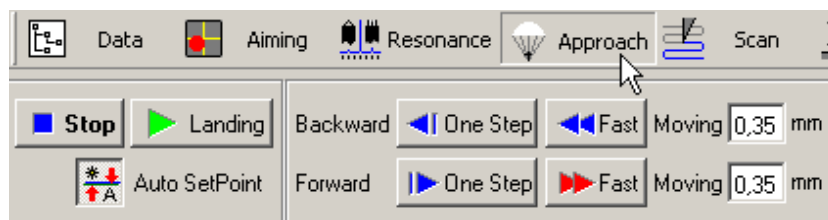

Fig. 12-43. Control panel of the **Approach** tab
- Go to the **Approach** tab with the  **Approach** button in the Main Operations panel (Fig. 12-43).